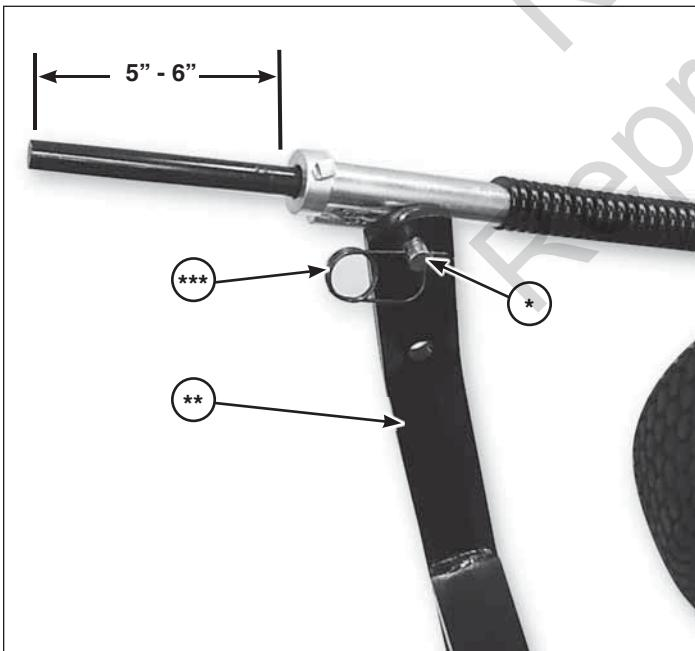

Figure 16
1. Insert the end of the rod and lift assembly (\*, Figure 16) through hole in upright of pivot assembly (\*\*), and secure with spring clip (\*\*\*).
**NOTE:** The rod guide (Figure 16) should be installed in the lower hole for hydraulic lift applications. For manual lift applications, the rod guide may be installed in either hole. The upper hole provides reduced lift effort; the lower hole provides increased lift height.